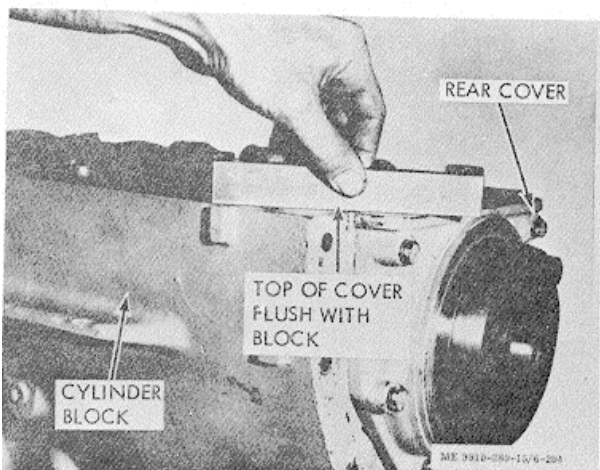

Figure 3-196. Rear cover alignment check.
(9) Install lockwashers and capscrews to secure cover to cylinder block; screw in until finger tight.
(10) Shift cover until oil pan surface of cover is flush with oil pan surface of cylinder block, figure 3-196. Use a piece of metal with a straight edge to check alinement.
(11) To check rear cover alinement, mount indicator on crankshaft end with point of indicator on machined surface of rear cover trunnion as illustrated in figure 3-196. Rotate crankshaft and check alinement; total indicator runout must not exceed 0.005in.
(12) Tighten mounting capscrews to 20/25 ft.-lb.